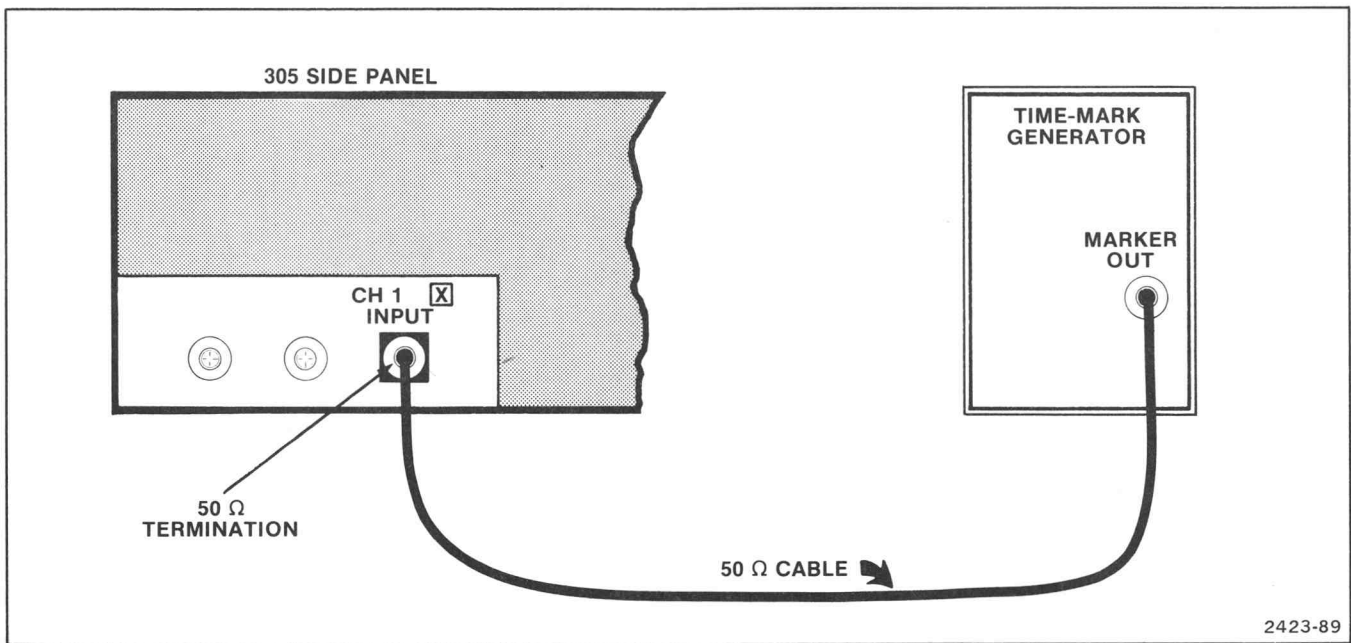

Fig. 6-1. Geometry test setup.
- a. Connect a time-mark generator as shown in Fig. 6-1 and set for 1 ms time markers.